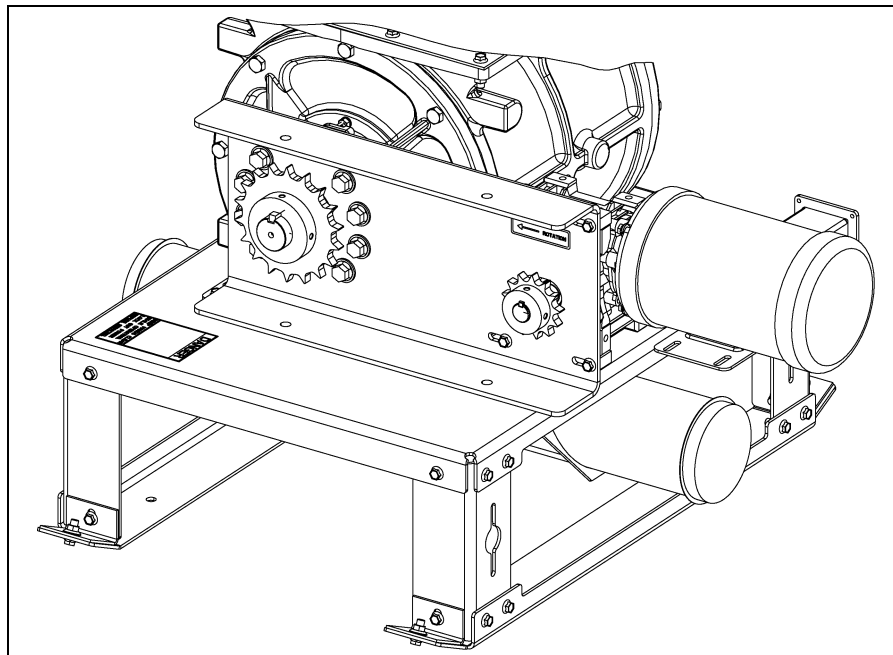

Figure 7L
10. Using four (4) 5/16" x 3/4" flange head bolts, mount the motor to the airlock gearbox. Place the specified sprocket on to the airlock shaft and align to sprocket on gearbox. (See Figure 7L.)